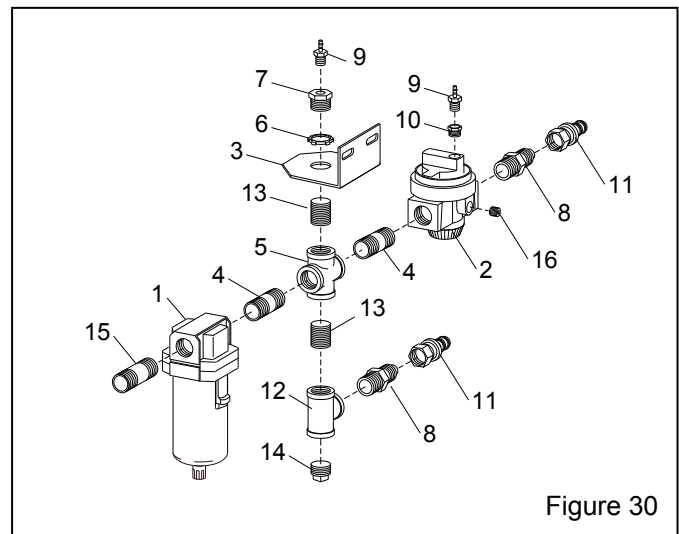

Figure 30
9.4 Suction Inlet Regulator Assembly, Figure 30